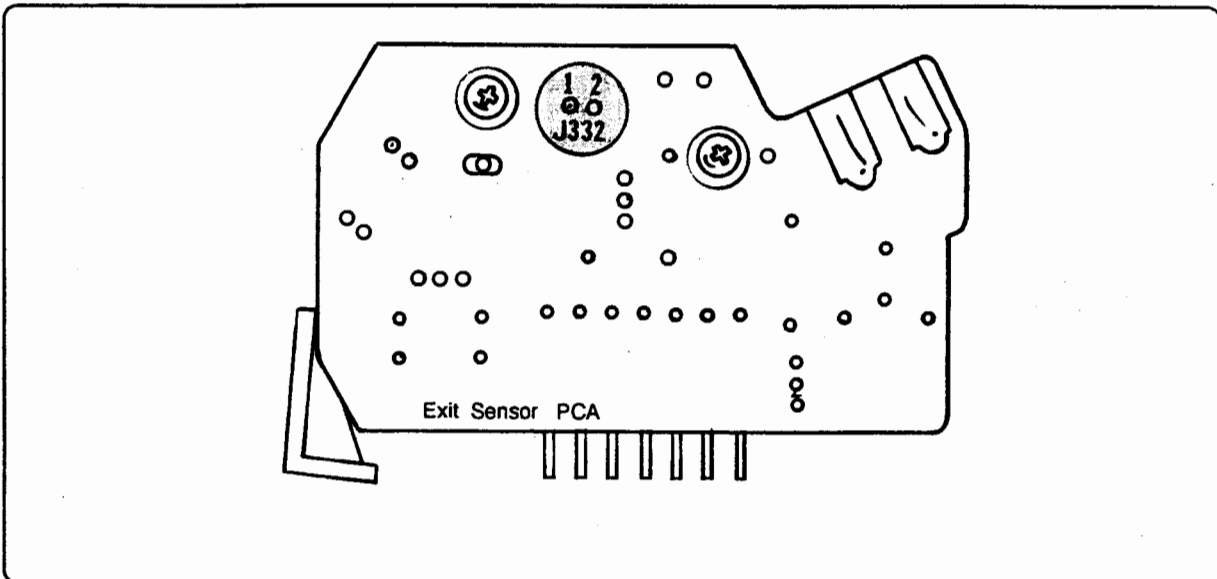

Figure 7-21. Thermistor Resistance at J332
3. Measure the Thermistor's resistance at J332, pins 1 and 2 (see Figure 7-21). At ambient room temperature (72° F, 23° C), the resistance should be approximately 1,130 kohms. If the printer has been operating for some time, the resistance value will be much lower. If the Thermistor appears to be either open or shorted, replace the Thermistor/Exit Sensor PCA.